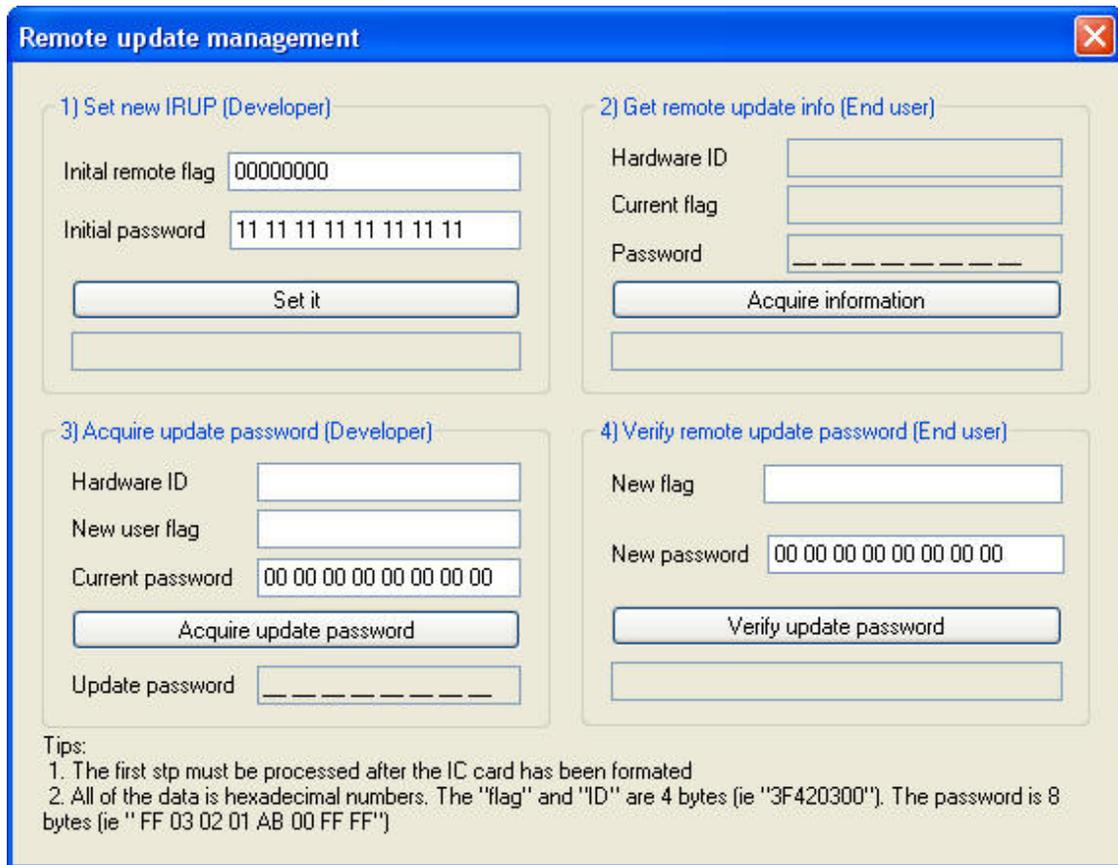

Figure 5-1
1. The software vendor must first initialize the ROCKEY6 SMART dongle to set the Initial Remote Update Tag (IRUT) and Initial Remote Update Password (IRUP). Here, we suggest you to set initial tag and password for later use even if you do not plan to use this feature for the moment. The IRUP cannot be set as a single “F” in all size; similarly, a single “0” in all size is unacceptable for the IRUT value input. See Figure 5-1 for detail: